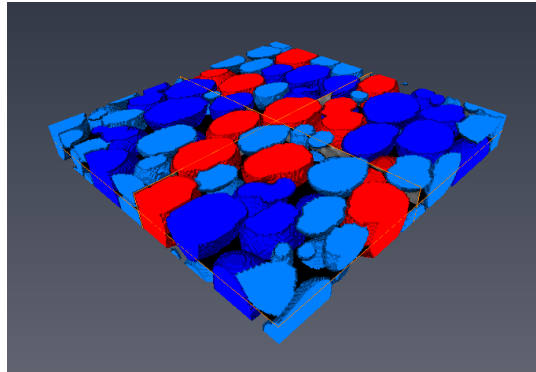

Figure 6.18: Sieve analysis result displayed with a *Volume Rendering*
- Display the label image using a *Volume Rendering* module, as shown on Figure 6.18.